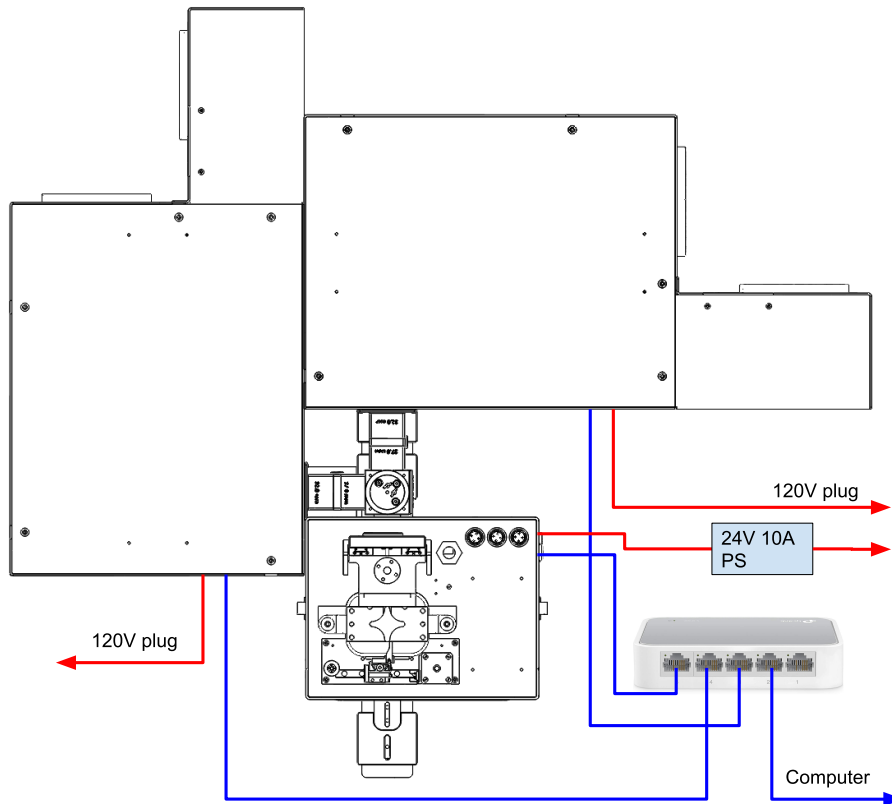

Fig. 11. Cable connections
- Connect both network and power cables as shown in Fig. 11.